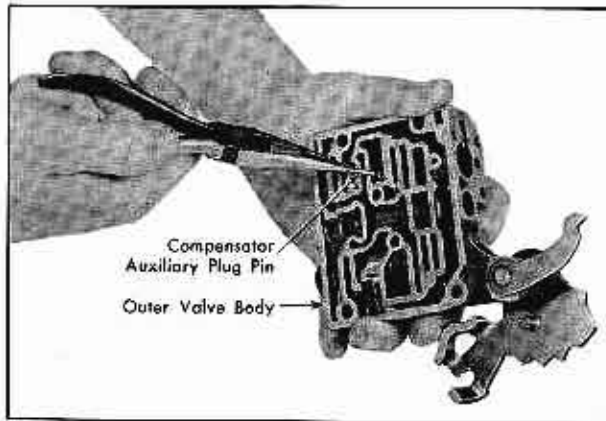

Fig. 14-67 Removing Compensator Plug Pin
9. Remove three screws and outer valve body from plate (AM) and remove compensator valve, spring and detent plug.
10. Remove pin that holds compensator auxiliary plug in place, using long nose pliers. Fig. 14-67.